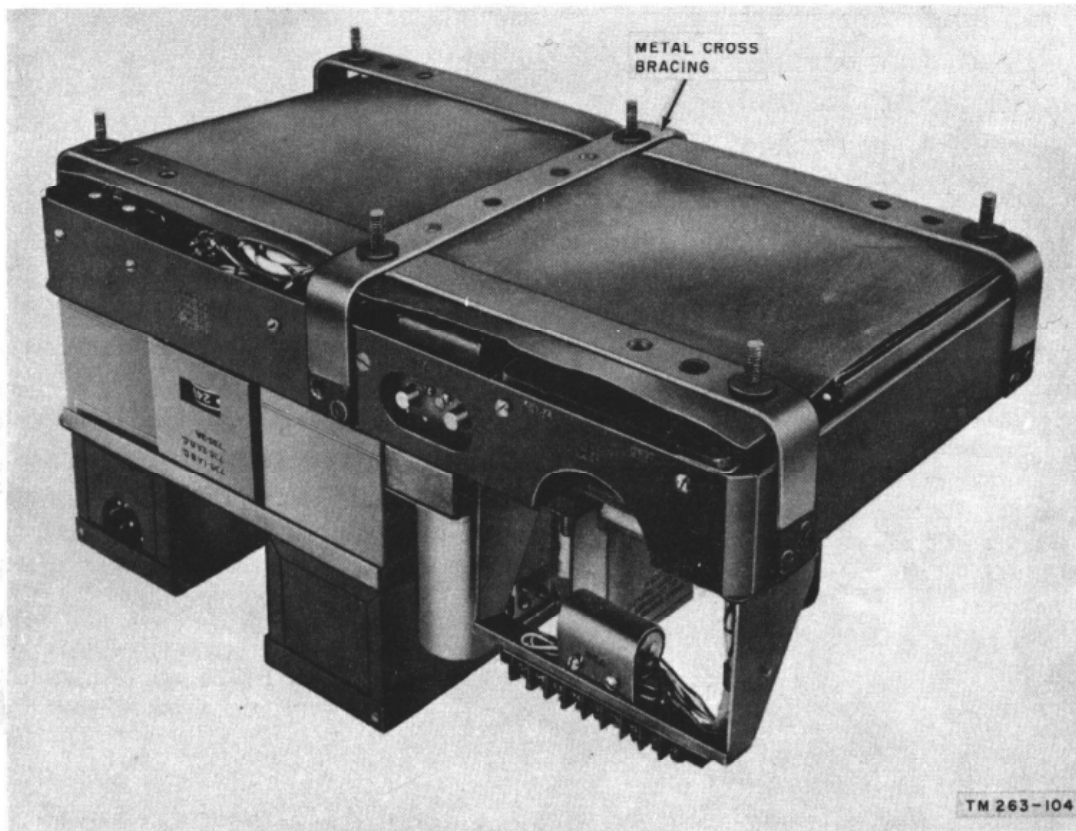

Figure 132. Vibrator Power Supply PE-237, cross-bracing on bottom of chassis.
- (1) Turn Vibrator Power Supply PE-237 upside down and unscrew the six nuts on the bottom of the housing.
- (2) The chassis should no longer have any connections to the housing. Lift the housing up and away from the chassis.
e. The bottom of the chassis has metal cross bracing members screwed to it. The bracing is held by screws along the sides of the chassis and two screws in the middle of the bracing (fig. 132).
- (1) Unscrew the 12 screws along the sides of the chassis which hold the ends of the bracing bands. For some units,